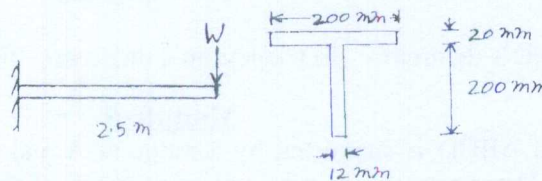

Fig Q3(a)
3. a. A beam of T section has a length of 2.5m and is subjected to a point load as shown in Fig Q3(a). Calculate the compressive bending stress and plot the stress distribution across the cross section of the beam. The maximum tensile stress is limited to 300MPa. Calculate the value of W. (12 Marks)